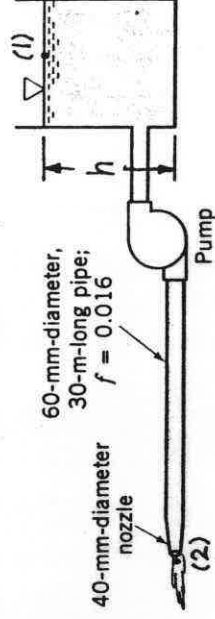

FIGURE P8.81
8.81 The pump shown in Fig. P8.81 adds 25 kW to the water and causes a flowrate of $0.04 \text{ m}^3/\text{s}$. Determine the flowrate expected if the pump is removed from the system. Assume $f = 0.016$ for either case and neglect minor losses.